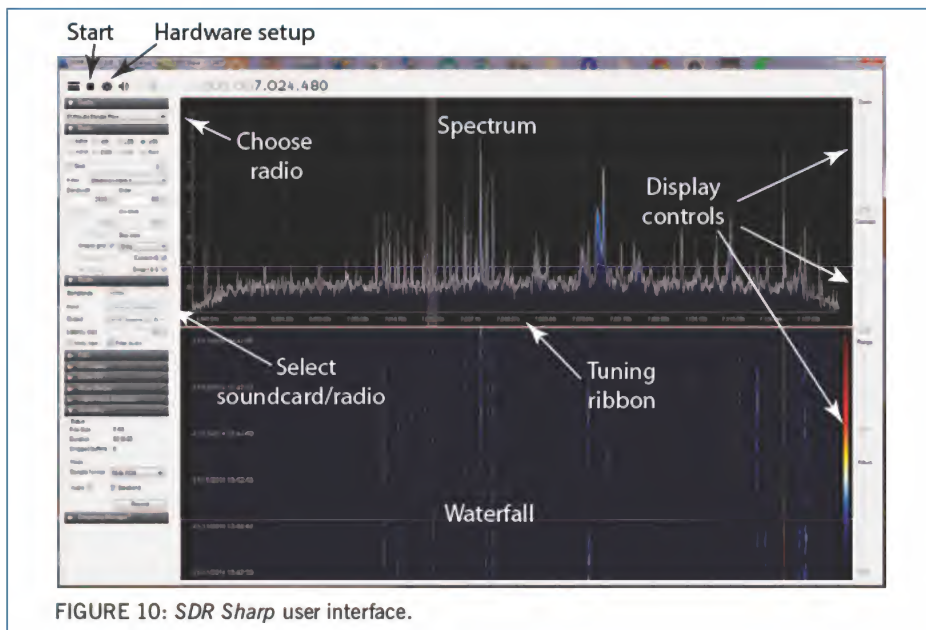

FIGURE 10: SDR Sharp user interface.
**SDR SOFTWARE INTRODUCTION.** For this section I'll use *SDR Sharp* as it is very popular and has the simplest interface. I've shown a screen shot of *SDR Sharp* in Figure 10. Let's start at the top left where you'll